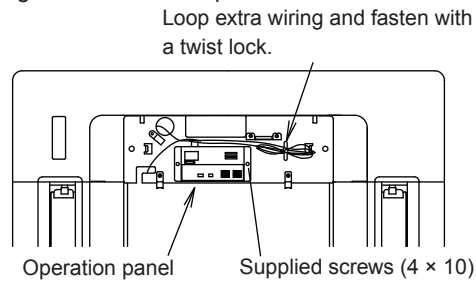
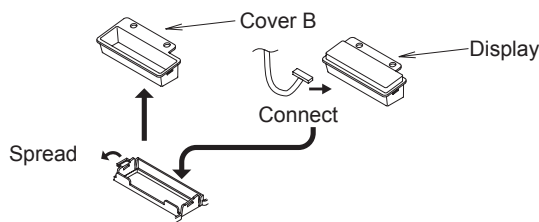
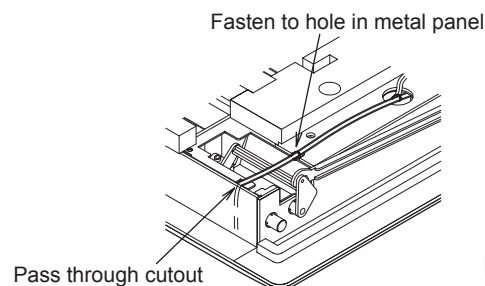

Fig. 3-2-12
Fig. 3-2-13
Fig. 3-2-14
- (2) Fasten the operation panel to the location shown in the figure below with the 2 enclosed screws (4 × 10). (Fig. 3-2-12)
- (3) Pass the receiver wiring (6P white connector) through the back of the panel.
- (1) The cover B is fit in the Cover A. Spread the points as indicated in figure 3-2-13 and remove it. The tape holding cover B is only to protect it during transport. Remove and discard it.
- (2) Connect the receiver wiring (6P white connector) that is sticking out from the operation panel to the receiver and fit the receiver into the panel. Make sure the 6P white connector is fully plugged in all the way.
- (3) Pass the lead wire for the receiver through the cutout in the panel and the hole in the metal panel. Then fasten it to the hole in the metal panel with the plastic clamber. (Fig. 3-2-14)
- (4) Attach cover A.
- (5) Properly route the lead wire of the operation panel and fasten it with the twist lock. (Fig. 3-2-12)
- (6) Install the ceiling panel.